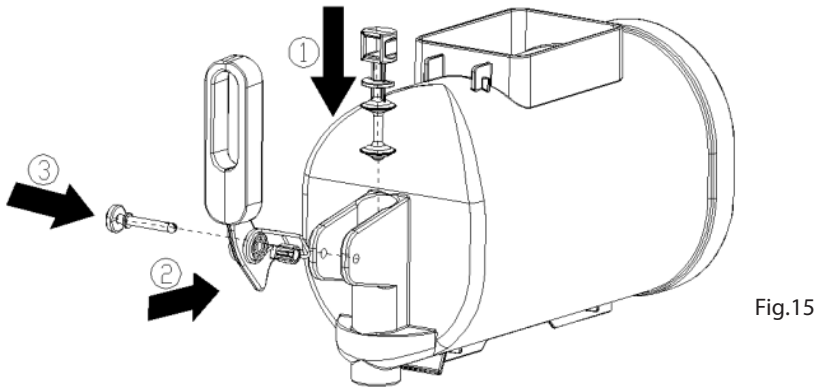

Fig.15
3. Reassemble the discharge faucet in the opposite order of disassembly (as shown in Figure 15).